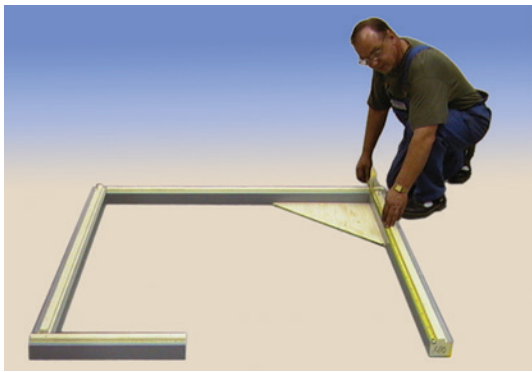

Fig. 6. The assembly of the plinths
- Layout rest of plinth sections provided, once again ensuring corners are at a true 90° angles (fig.6). Check the outer dimensions will suit room being assembled. Drill holes through plinth in to floor and secure with fixings provided. **NOTE:** Leave 4 fixings for doorframe supports.